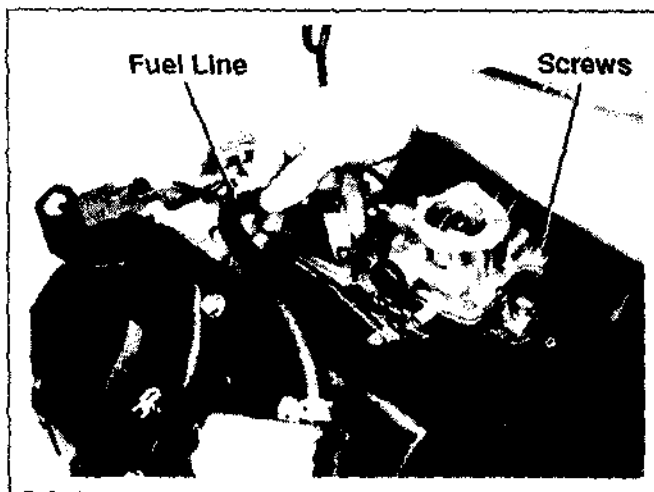

Figure 5-3. Carburetor Mounting Detail.
2. Disconnect the fuel line from the carburetor. See Figure 5-3.
8. Once proper float height is obtained, carefully lower the carburetor air horn assembly onto the carburetor air horn casting. Install the four screws. Torque screws to 1.7 N-m (15 in. lb.). See Figure 5-3.